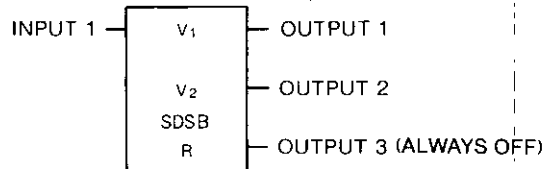

Fig. 5.44 SDSB General Form
(2) Form
- Fig. 5.44 shows the form of signed double-precision subtraction (SDSB).